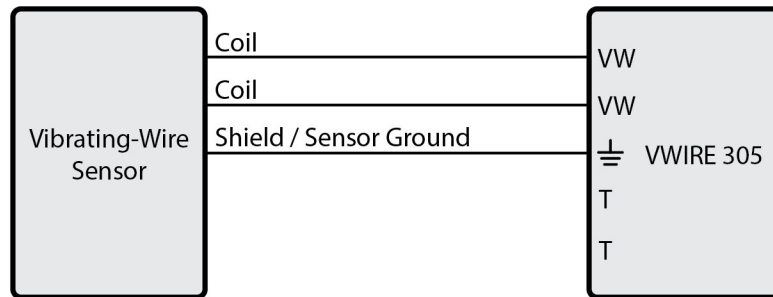
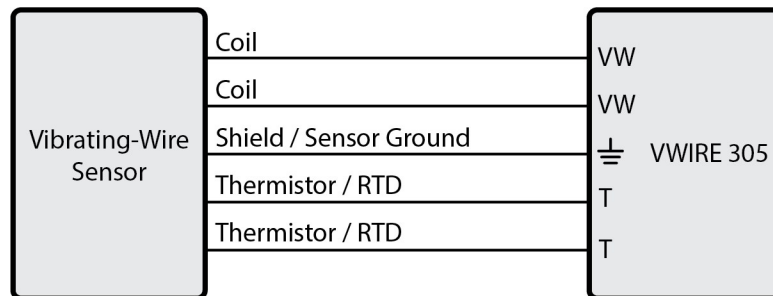

FIGURE 4-2. Three-wire sensor connection schematic (no embedded thermistor)
FIGURE 4-3. Five-wire sensor connection schematic
2. Connect the sensors to the VWIRE 305 (FIGURE 4-2 (p. 3) and FIGURE 4-3 (p. 3)). For further guidance on connecting sensors, see Sensor connections (p. 31).